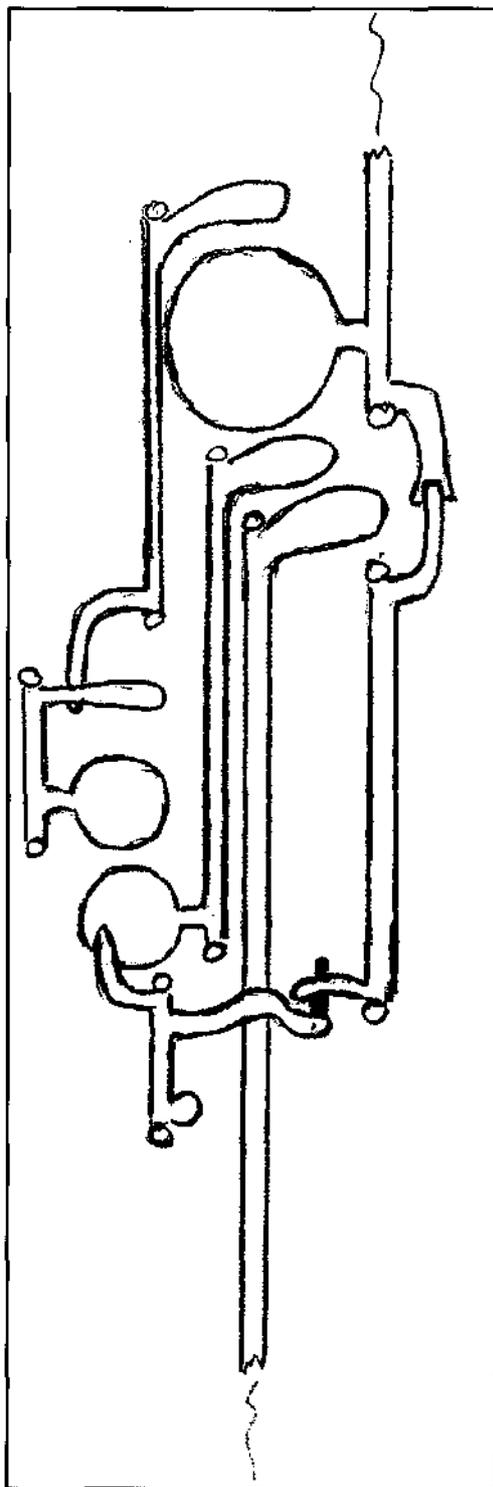

Figure 5: Sketch of boot joint showing a possible low E to F connection.
6) Low E and F Key Linkage (Figure 5)